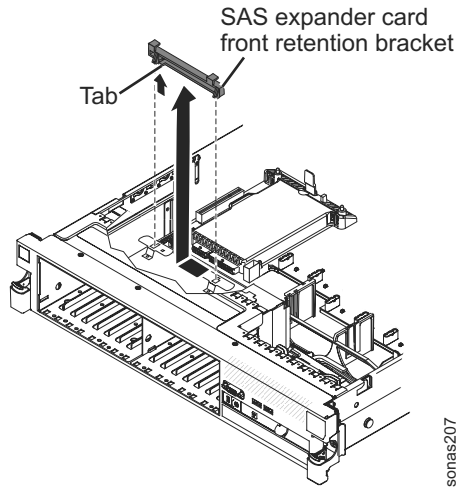

Figure 23. SAS controller front retention brackets
- 1) Remove the SAS controller front retention bracket from the server. See Figure 23 on page 121.